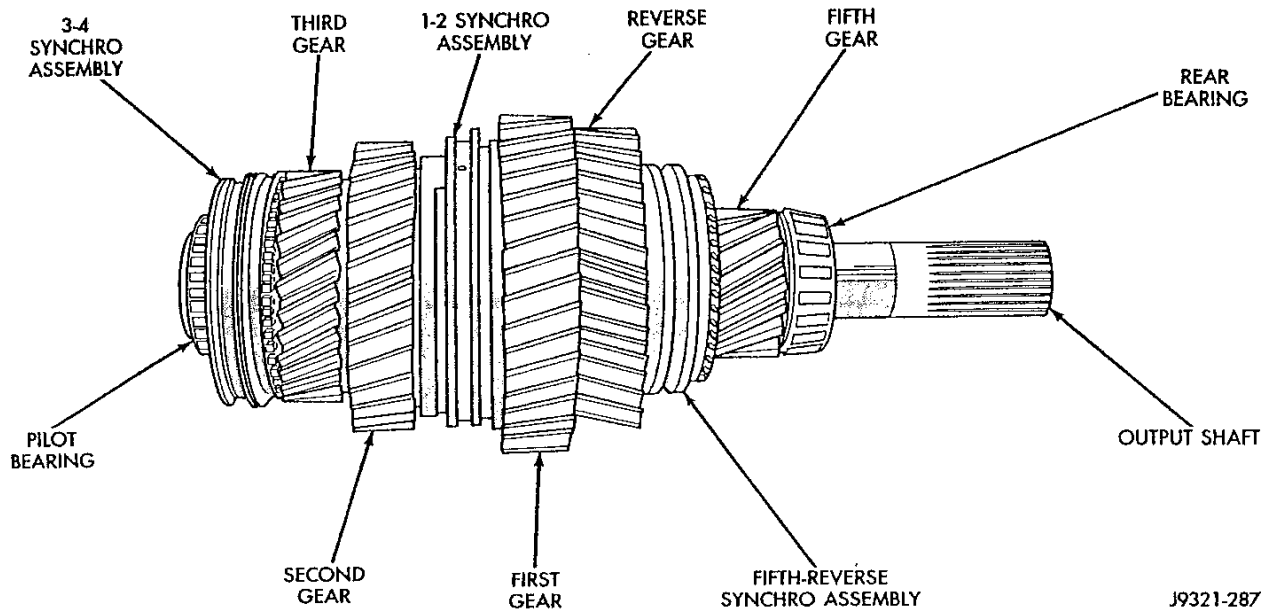

Fig. 51 Output Shaft Geartrain Installation Sequence
(24) Install rear bearing on output shaft (Fig. 51) Use suitable tool to seat bearing on shaft.
(25) Verify correct gear installation. Refer to installation sequence shown in Figure 51.